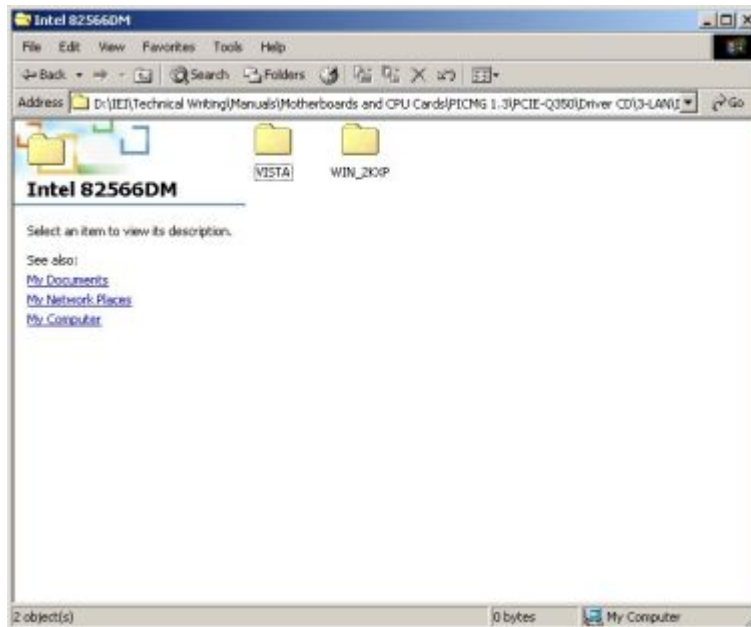

Figure 7-20: Intel® 82566 Operating System
Step 4: The window in **Figure 7-20** appears.
- Step 5:** Select the Operating System in **Figure 7-20**.